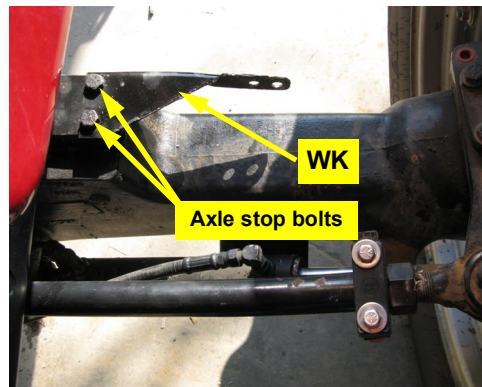

Figure 2c: Installed bracket at axle stop
- c. Remove the two axle stop bolts and attach bracket **WK** using the axle stop bolts (Figure 2c).